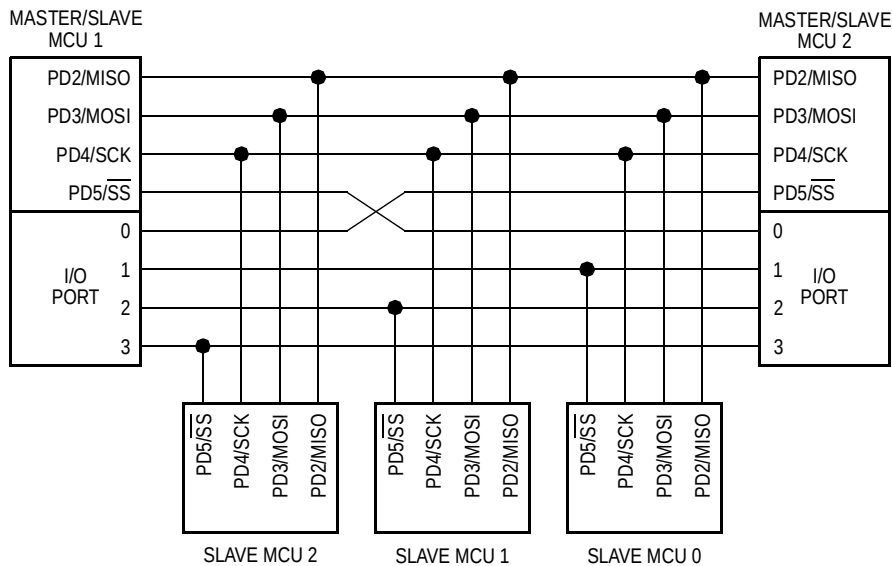

Figure 11-5. Two Master/Slaves and Three Slaves Block Diagram
**Figure 11-5** is another block diagram with two master/slave SPIs and three slave SPIs.